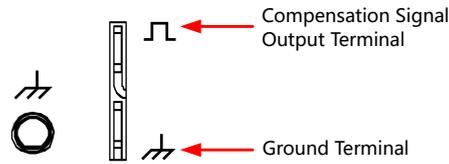

Figure 4.7 To Use the Compensation Signal
2. Connect the ground alligator clip of the probe to "Ground Terminal", as shown in *Figure 4.7* below.
3. Use the probe to connect the input terminal of CH1 of the oscilloscope and the "Compensation Signal Output Terminal" of the probe, as shown in *Figure 4.7*.